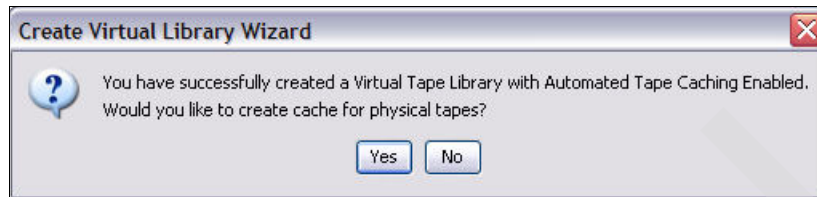

Figure 6-99 Cached virtual library creation: Create cache confirmation
13. Click **Yes** in the window shown in Figure 6-99 on page 243 to create the cache for the physical tapes.